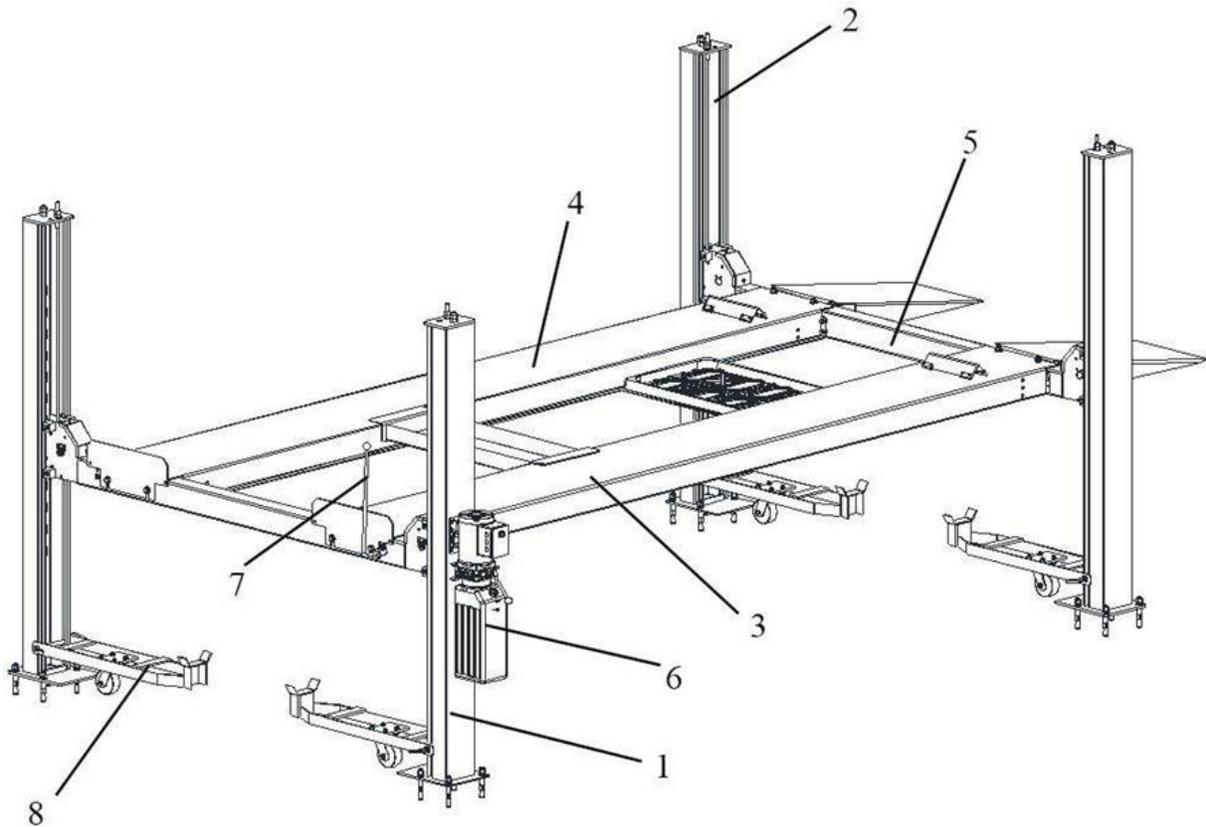

Fig. 2
This chapter describes the lift's principal elements, allowing the user to be familiar with the machine. As shown in figure 2, the lift is composed of four columns: 1 power-side column (1), 3 off-side columns (2), two platforms: the power-side platform (3) and the off-side platform (4), and two transverse beams (5), anchored to the ground by means of the column base plates.